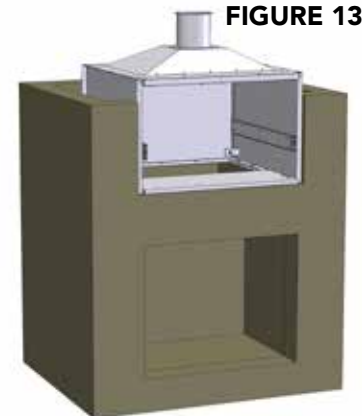

FIGURE 13
4. Place the oven liner in the structure, resting on the support ledges (Figure 13). Do not secure the oven liner to the structure at this time.